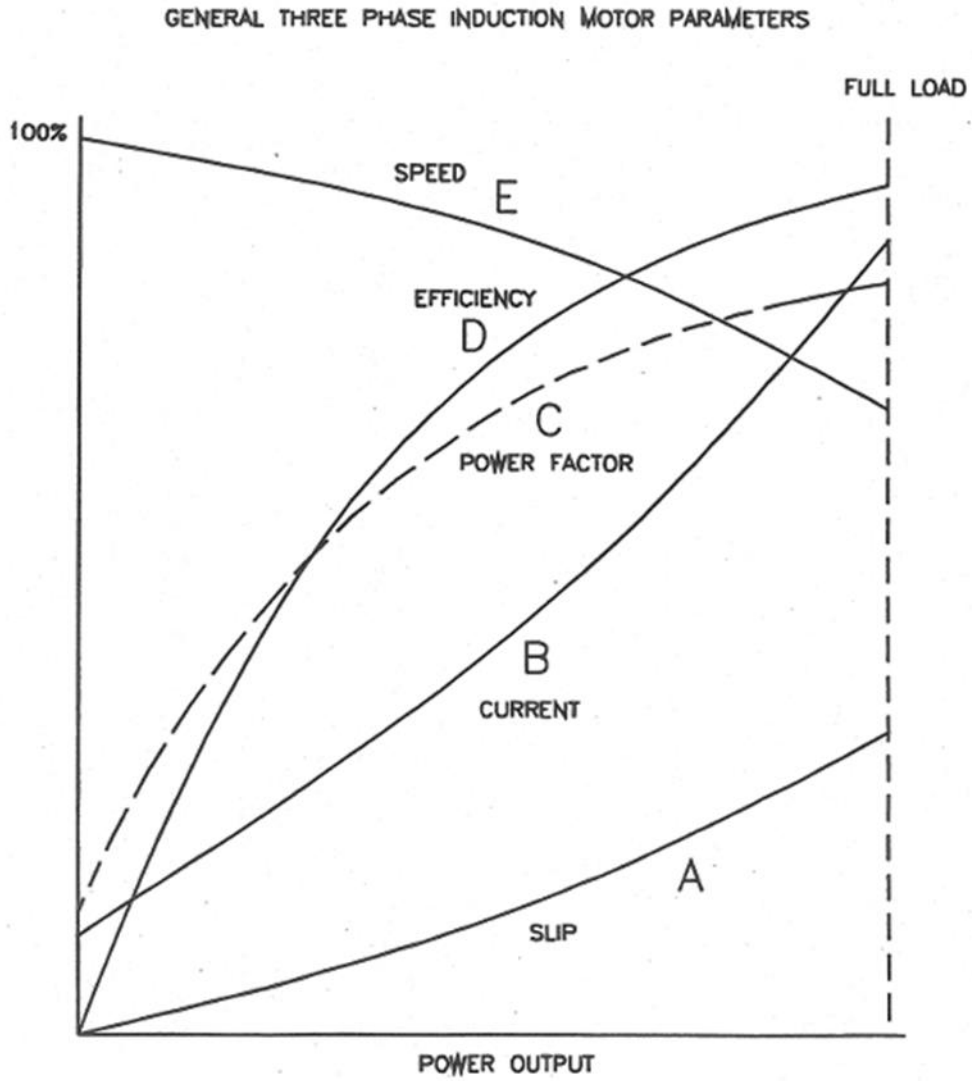

Figure 2. – Information for Q. 33
33. Figure 2 (on the following page) shows the general operating parameters of a typical standard three phase squirrel cage induction motor. What operating parameter is represented by the letters A, B, C, D and E?